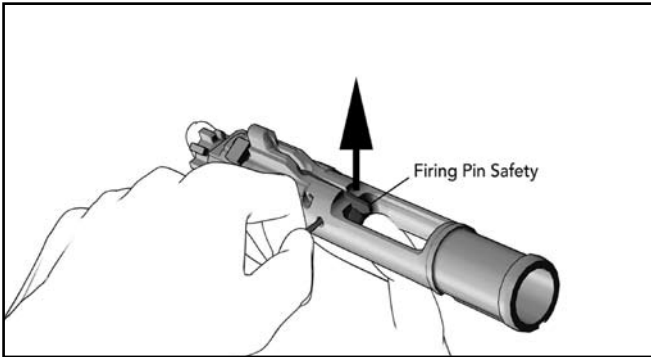

Fig. 25 – Drift out the Firing Pin Retaining Pin and lift up on the Drop Safety
- b. Insert the small tip of the disassembly tool into the right hand side of the firing pin retaining pin and drift the firing pin retaining pin from right to left until the firing pin retaining pin reaches its limit of lateral travel (Fig. 25).
d. Lift up on the spring-loaded drop safety (firing pin safety) and remove the firing pin and firing pin spring (Fig. 25 and Fig. 26).